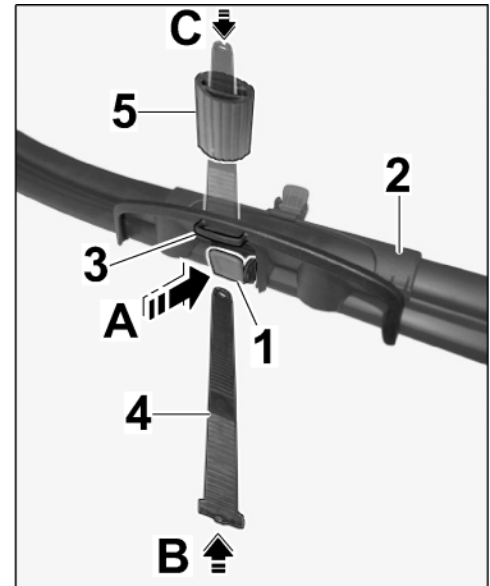

Figure 6
- 1.3.1 Press turnbuckle, on the side with the tab, on the wheel mount (⇒ *Figure 6-A-*).
- 1.3.2 Push tension strap as far as it will go through the turnbuckle from below (⇒ *Figure 6-B-*).
- 1.3.3 Install rim protector as far as it will go onto the tension strap (⇒ *Figure 6-C-*)